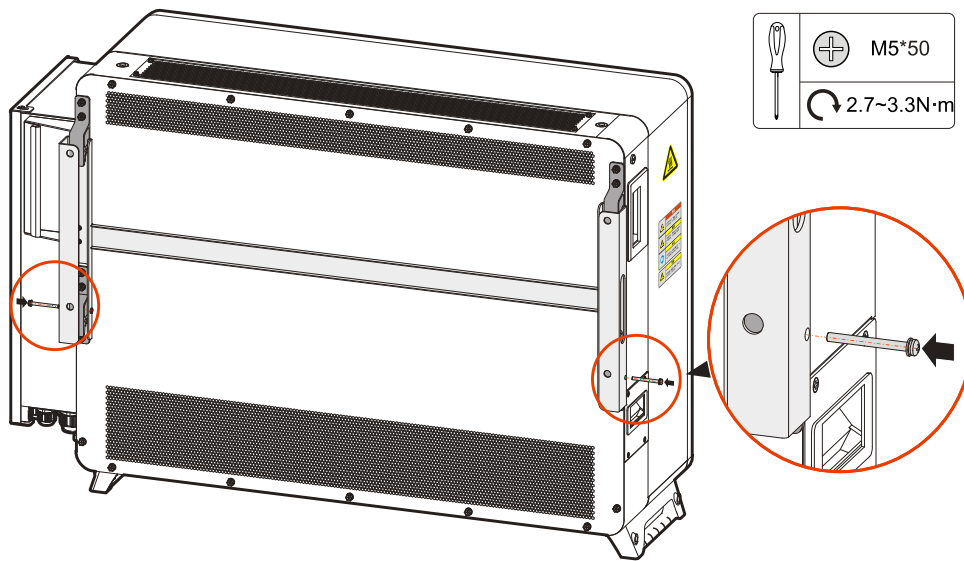

Figure3-17 Fix inverter
- Step 6 Use the screws M5*50 in the accessories to fix the inverter, as shown in Figure3-17.